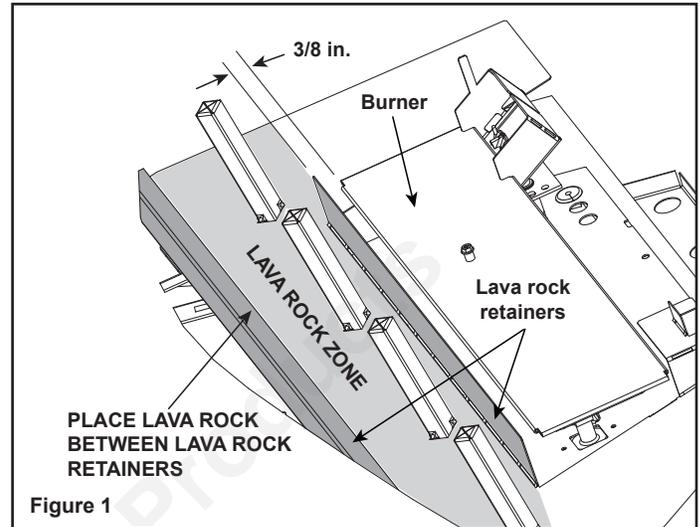

Figure 1
**Note:** Figure 1 illustrates the recommended gap between the burner and the lava rock retainer.
**Step #6:** Apply the supplied lava rock as shown above. Place an even layer of lava rock in zone shown in Figure 1. The amount should be just enough to cover the metal surface. Take care to ensure that no lava rock is placed outside the zone indicated in Figure 1.